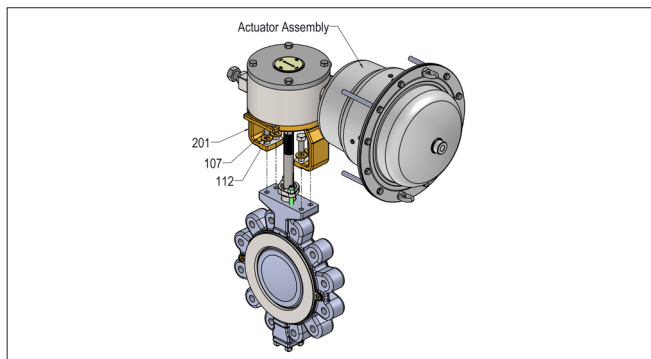

Figure 7: Actuator assembly drawing
2. Install the actuator in an upright position whenever possible. Vertical installation permits easier actuator maintenance. (see Figure 7).